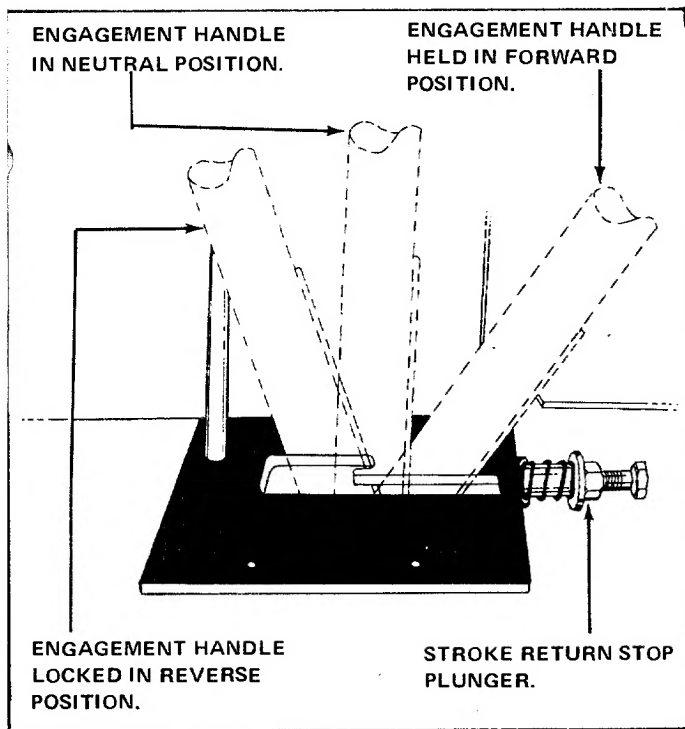

FIGURE 10
7. Thread ferrule onto engagement rod until ferrule lines up with hole in engagement handle, with the engagement handle placed in neutral position. Refer to figure 10.
Engagement handle has three positions: (See figure 10)